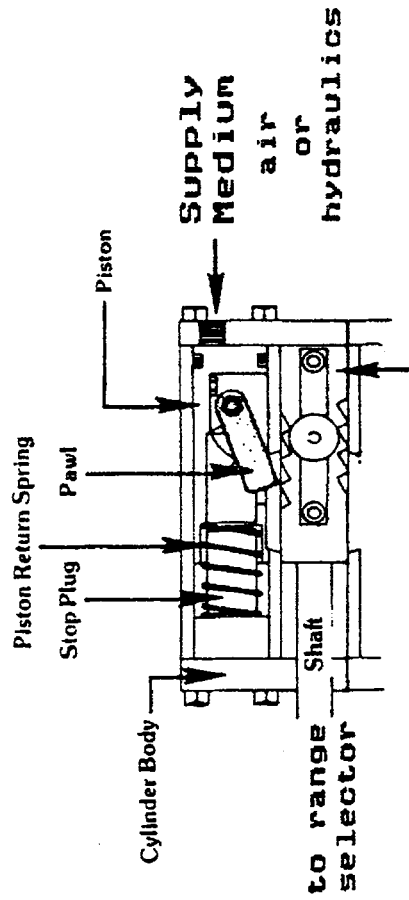

Figure 1 - Initial Position
3. The shift action is completed when the Power Medium is exhausted and the Piston Return Spring pushes the Piston back to its initial position (Figure 1).